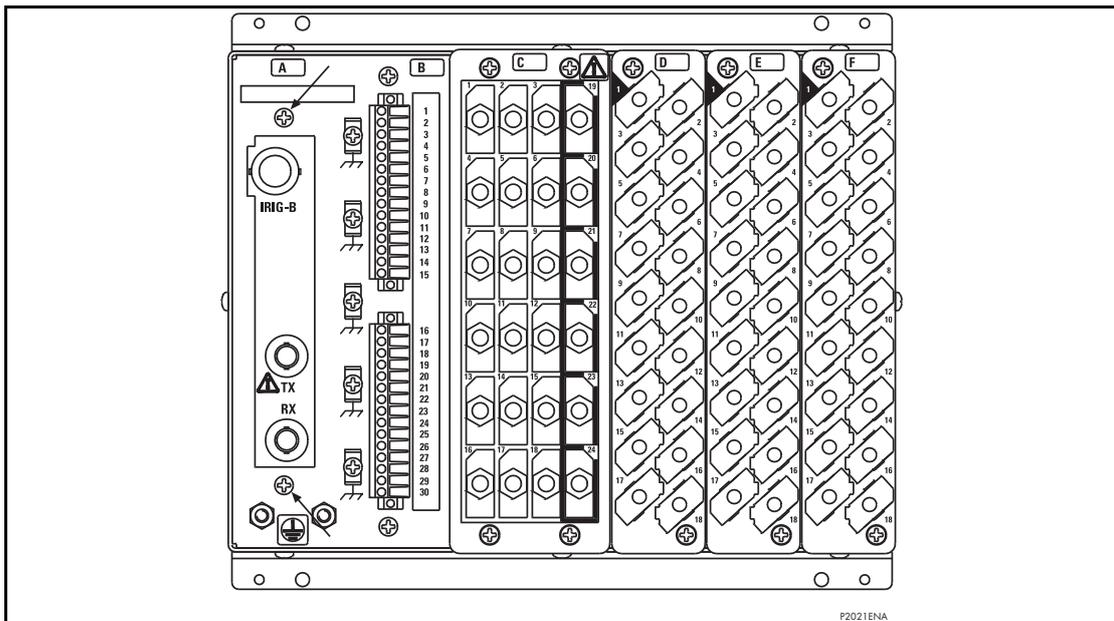

Figure 3: Location of securing screws for IRIG-B board
2. The board is secured in the case by two screws accessible from the rear of the relay, one at the top and another at the bottom, as shown in Figure 3. Remove these screws carefully as they are not captive in the rear panel of the relay.